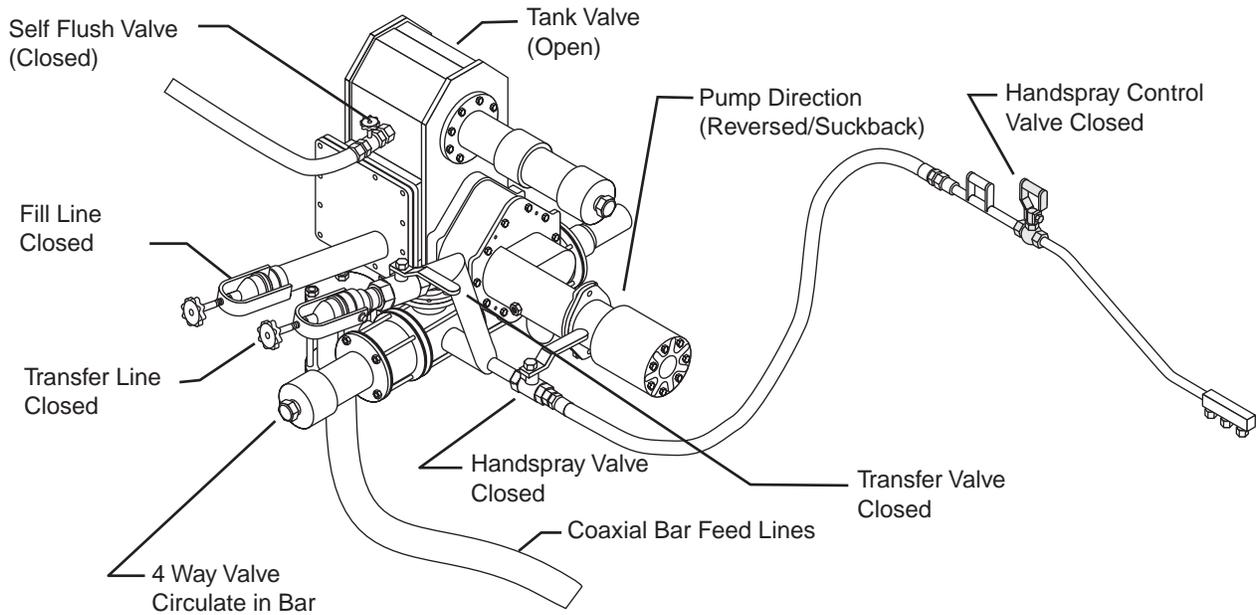

Figure 7. Valve Positions for Suckback
1. Set the Pump Direction Switch to Reversed/Suck-back (see Figure 7).